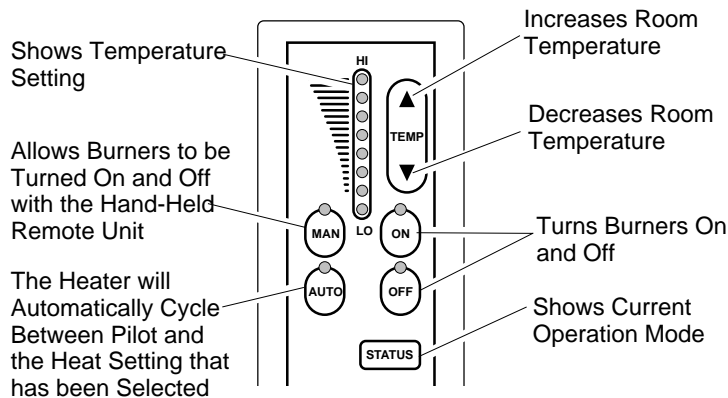

Figure 48 - Hand-Held Thermostat Remote Control Unit Selections (GHRCT Only)
- 2b. Select the MAN (manual) or AUTO button on the hand-held remote control unit (see Figure 48).